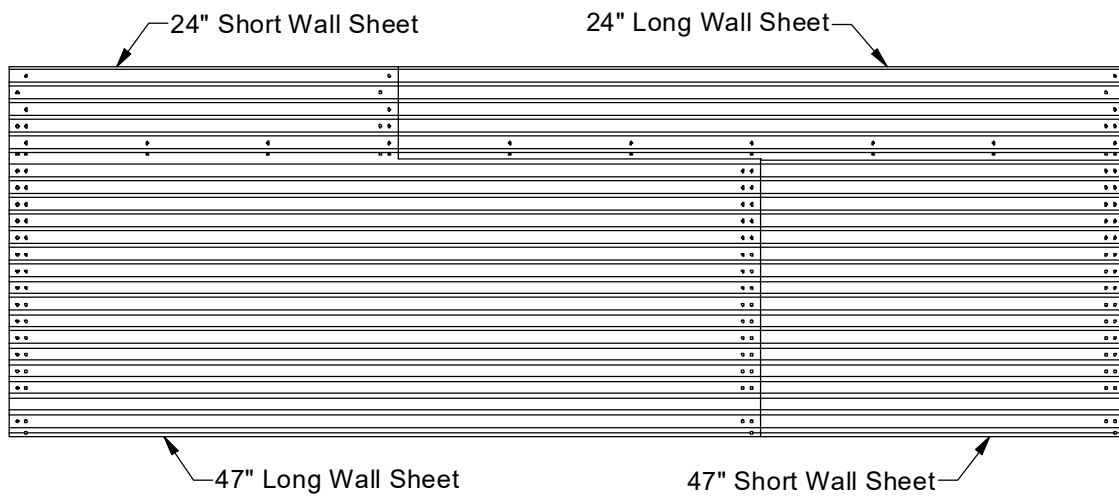

Fig 28 - Wall sheet assembly (long and short 47" sheets)
- If the bottom 47" tier of the system has 1 half sheet on the end, then start the top 24" tier with a half sheet and end with a long sheet. See Figure 28